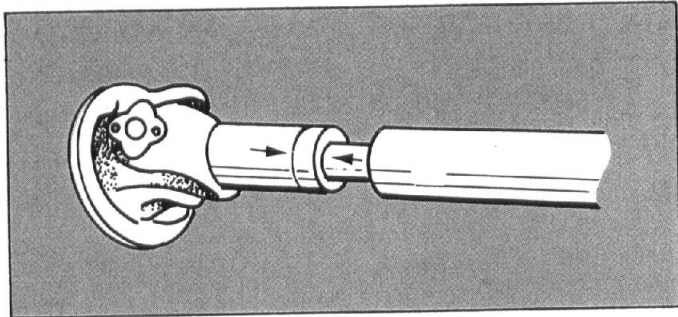

Figure 10. Drive line slip joint in phase.
2. Drive line slip joints that do not have the arrows or other markings pointing to each other will result in the drive line universal joints being out of phase, Figure 10. In other words, the transmission universal joint may be turned one spline or more to the right or left of being aligned with the universal joint at opposite end of the drive line. **NOTE:** Some computer designed drive lines are purposely built with U-joints out of phase. Check manufacturers specifications for proper setting. Also, check closely to make certain no twist has occurred to the tubing, causing these two joints to be out of phase.